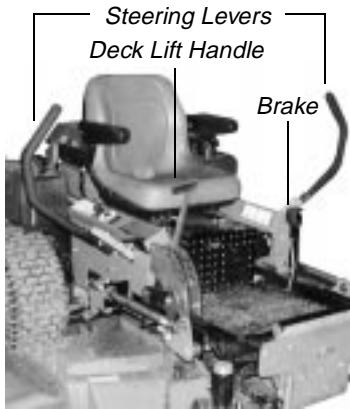

Figure. 3
3. **Left and Right Steering Levers:** (See Figure 3.) These hinged levers open out to the side in the neutral position to permit the operator to be seated or to leave the mower's seat. The operator, when seated, can pull the levers up to the operating position, a comfortable forearm's length away. These levers control all of the movements of the mower. Pushing both levers forward causes the mower to move forward. Pulling both levers back causes the mower to move backward. Pushing one lever ahead of the other lever causes the traction wheel on the side where the lever is ahead to rotate faster than the other traction wheel, making the mower turn toward the side where the lever is behind. When one lever is pushed forward and the other lever pulled back the same amount, one traction wheel will turn in reverse and the mower will turn within its own length.
5. **Parking Brake:** (See Figure 3.) Located on the left side of the traction unit. The handle is an overcenter lever which applies the internal drum-type brake on each drive wheel when the handle is in the up position. The brake must be engaged in order to start the engine.
6. **Deck Lift Handle and Optional Foot Pedal Lift Assist:** (See Figure 3.) Located on the right front corner of the mowing deck. Raise the mowing deck to the transport position, by pulling the lever to the rear and moving it inward into the stop for transport. To lower the mowing deck, pull the deck lift handle and move it outward. This lowers the deck to the cutting position. The foot pedal lift assist (not pictured above) can provide “lift assist” to the hand lever or with “foot effort only”. To provide assistance to the lift handle: remove the hairpin clip from the locking pin and remove the pin from the pedal assembly. Fold the pedal down to the horizontal position so the hole in the pedal aligns with the hole in the lever. Reinstall the locking pin and hairpin clip. Pull on the Lift handle and depress the foot pedal to raise the deck. Lifting with “foot effort only” depress the foot pedal (the hand lever will lock into transport position if fully depressed). To release the lift mechanism depress the foot pedal, move the hand lever outward and slowly reduce foot pedal effort to lower the